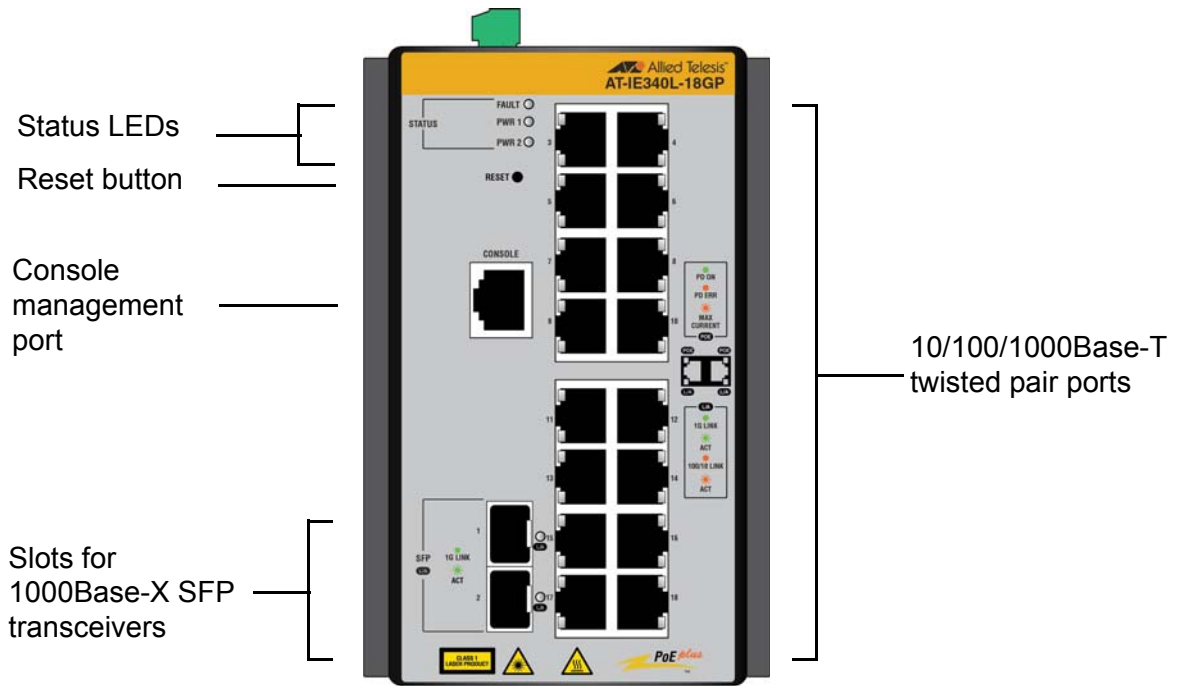

Figure 4. Front Panel of the IE340L-18GP Switch
**IE340L-18GP** The front panel of the IE340L-18GP Switch is shown in Figure 4.